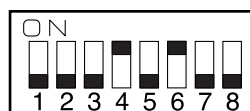

Figure 5-145
- 2) Set the DIP switch (SW1) on the ADF controller PCB as indicated in Figure 5-145.